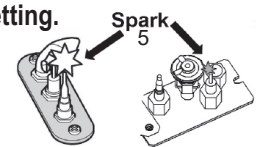

Fig 3
2. **SET ON/OFF SWITCH (1) TO "OFF" POSITION.**
- Wait five (5) minutes to clear out any gas, then smell for gas, including near the floor. If you smell gas, **STOP!** Follow "B" in the safety information above on this label. If you don't smell gas, go to the next step.
3. **AUTOMATIC IGNITION (fig. 1):** Locate the pilot (fig 3.) inside of firebox.
- ON/OFF switch (1) in ON position, MAN-knob (2) in ON position; set Flame Adjustment knob (3) to lowest setting (U)
- When the pilot is lit, the Flame Adjustment knob (3) will automatically rotate to the highest setting.
4. **MANUAL IGNITION (fig. 2):** With the window off, locate pilot (fig. 3) inside firebox;
- ON/OFF switch (1) in ON position, MAN-knob (2) in MAN position;
- Set Flame Adjustment knob (3) to the lowest setting (U);
- Push down the metallic core (4) with a pen or similar instrument; this will establish the pilot gas flow;
- Light gas at the pilot (5) with a match;
- Continue holding down metal core (4) for about 10 seconds; after release, pilot should remain lit;
- If the pilot will not stay lit after several tries, turn the gas control knob (3) to "OFF" (U) and call your local service technician or gas supplier.
- Reinstall the window and set the MAN-knob (2) to "ON"; turn Flame Adjustment knob (3) up (U) or down manually or use the up/down 'flame' buttons on the remote control handset to adjust the flame height.